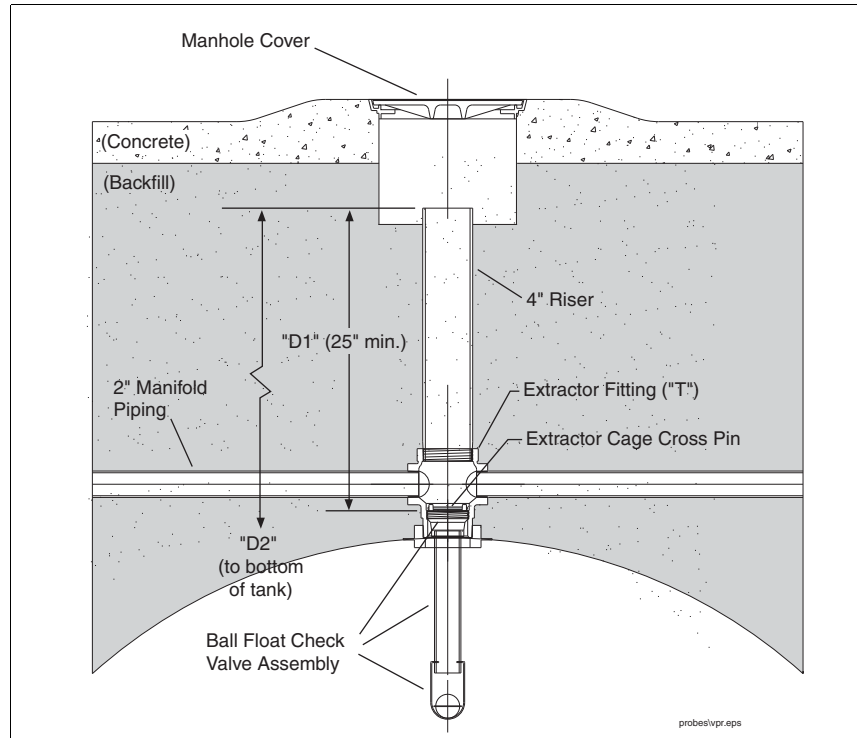

Figure 10. Determining Mag Probe Length for Installation in a Vapor Extractor Riser
1. Measure the distance from the top of the riser to the Extractor Cage Cross Pin (see Figure 10). Record this distance as "D1" (Important - Dimension "D1" must be at least 25 inches).